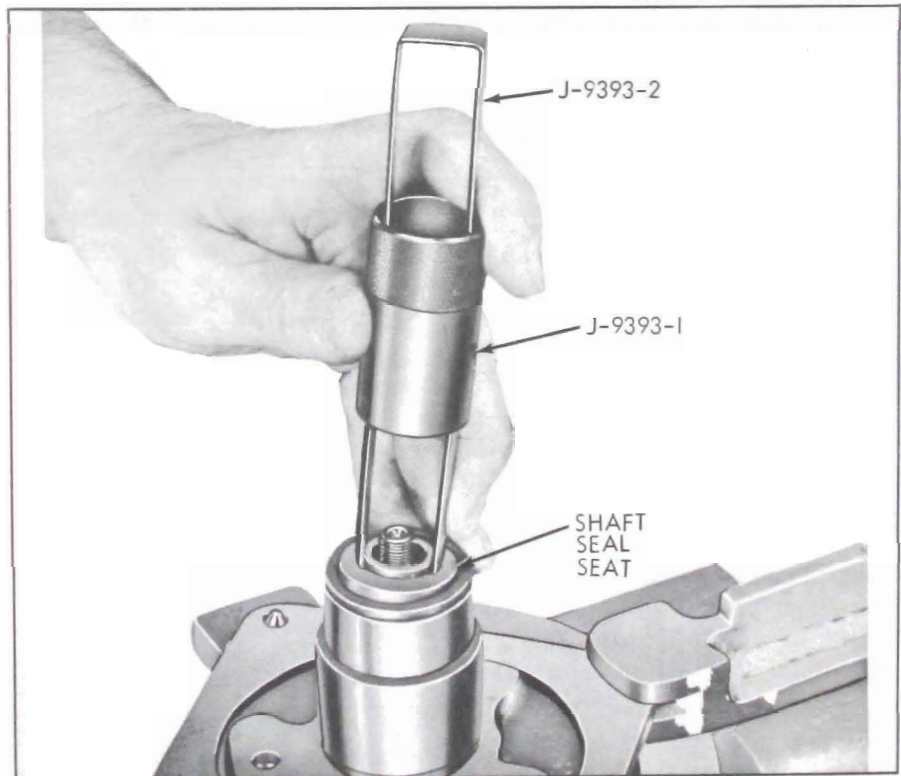

Figure 11-54—Removing or Installing Shaft Seal Seat
6. Disassemble shaft seal seat (see Figure 11-54) by use of Seal Seat Remover and Installer (J-9393). Grasp flange of shaft seal seat with tool and pull straight out.
11. Lubricate shaft seal seat with 525 viscosity oil, mount seat on Seal Seat Remover and Installer (J-9393) and reassemble into hub of front head (see Figure 11-54).